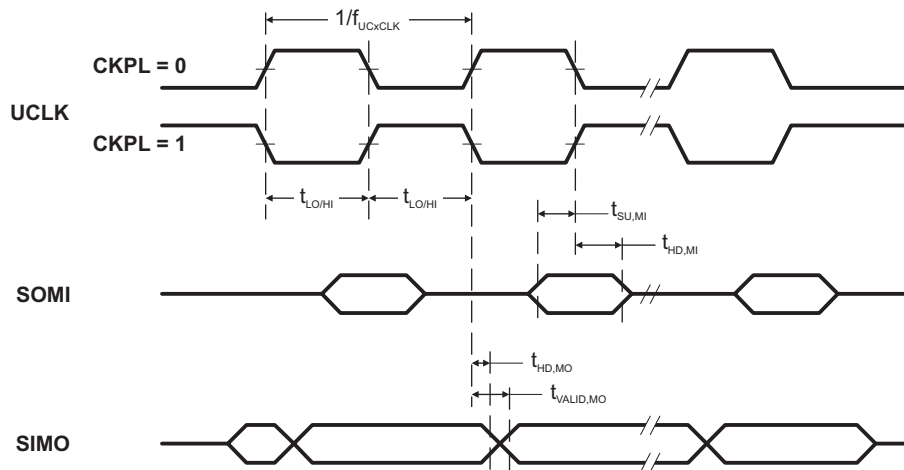
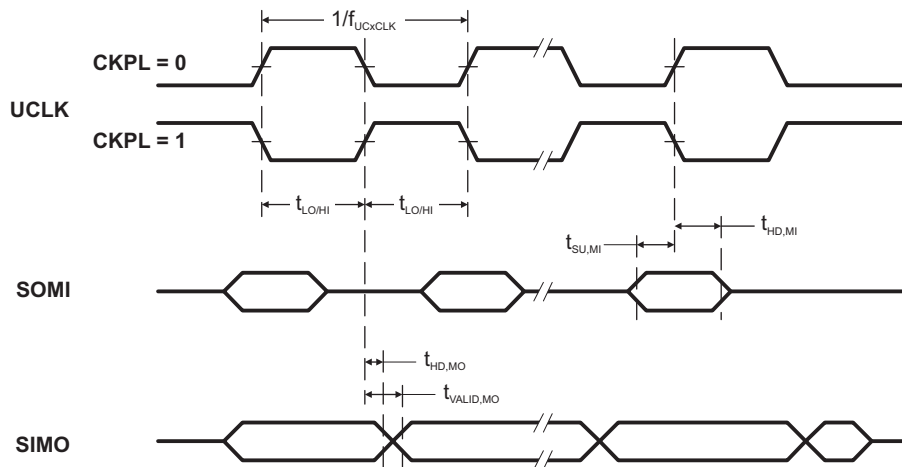

Figure 11. SPI Master Mode, CKPH = 0
Figure 12. SPI Master Mode, CKPH = 1
over recommended ranges of supply voltage and operating free-air temperature (unless otherwise noted) (see Note ⁽¹⁾, Figure 11 and Figure 12)
- (1) f_{UCxCLK} = 1/2t_{LO/HI} with t_{LO/HI} ≥ max(t_{VALID,MO(USCI)} + t_{SU,SI(Slave)}, t_{SU,MI(USCI)} + t_{VALID,SO(Slave)}).
- (2) Specifies the time to drive the next valid data to the SIMO output after the output changing UCLK clock edge. Refer to the timing diagrams in Figure 11 and Figure 12.
- (3) Specifies how long data on the SIMO output is valid after the output changing UCLK clock edge. Negative values indicate that the data on the SIMO output can become invalid before the output changing clock edge observed on UCLK. Refer to the timing diagrams in Figure 11 and Figure 12.
(2) Specifies the time to drive the next valid data to the SOMI output after the output changing UCLK clock edge. Refer to the timing diagrams in Figure 11 and Figure 12.
(3) Specifies how long data on the SOMI output is valid after the output changing UCLK clock edge. Refer to the timing diagrams in Figure 11 and Figure 12.